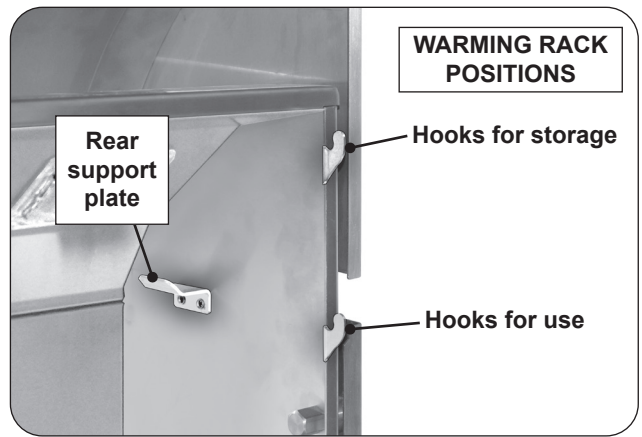
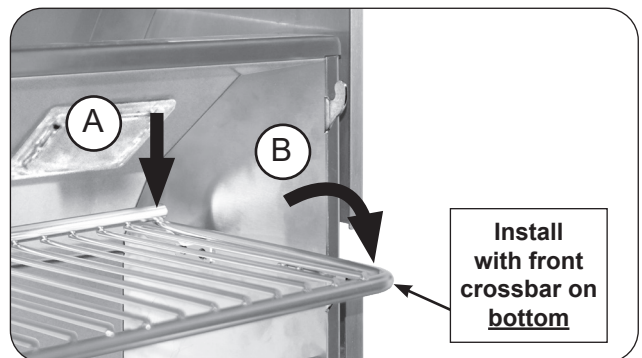
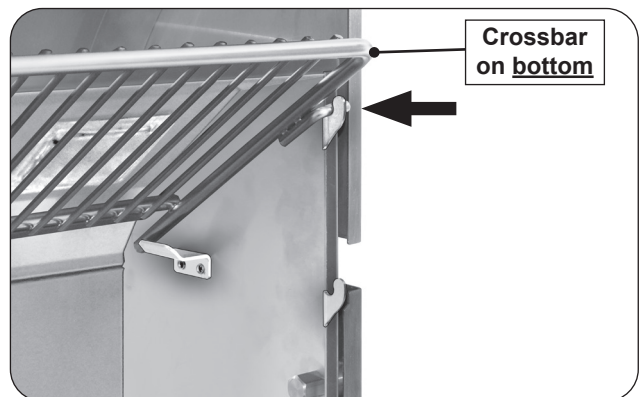

Fig. 21-1 Warming rack hooks
Fig. 21-2 Place warming rack for use
Fig. 21-3 Place warming rack in storage position
1. Locate the warming rack hooks and rear supports found on the upper portion of the grill oven (see Fig. 21-1).
2. With the warming rack oriented as shown, carefully rest the rear of the rack onto the rear support plates (Fig. 21-2, A), then rest the warming rack arms onto the two lower hooks for use (Fig. 21-2, B). Use the top hooks for storage (see Fig. 21-1 and Fig. 21-3).